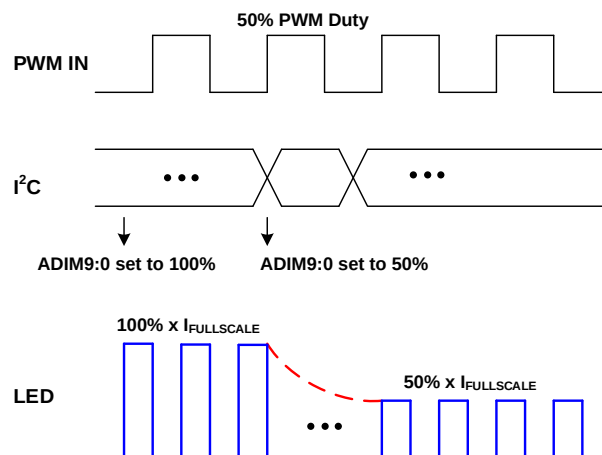

Figure 8: PWM Dimming via PWM Input
3. PWM Dimming Mode via PWM Pin: This mode is activated if MOD2:0 = 010. In this mode, the LED current is chopped as a PWM waveform. The PWM frequency is set by the internal FPWM3:0 bits. The duty cycle is dependent on the calculated value from the PWM pin signal. The current amplitude can be changed by via the ADIM9:0 10-bit value (see Figure 8).